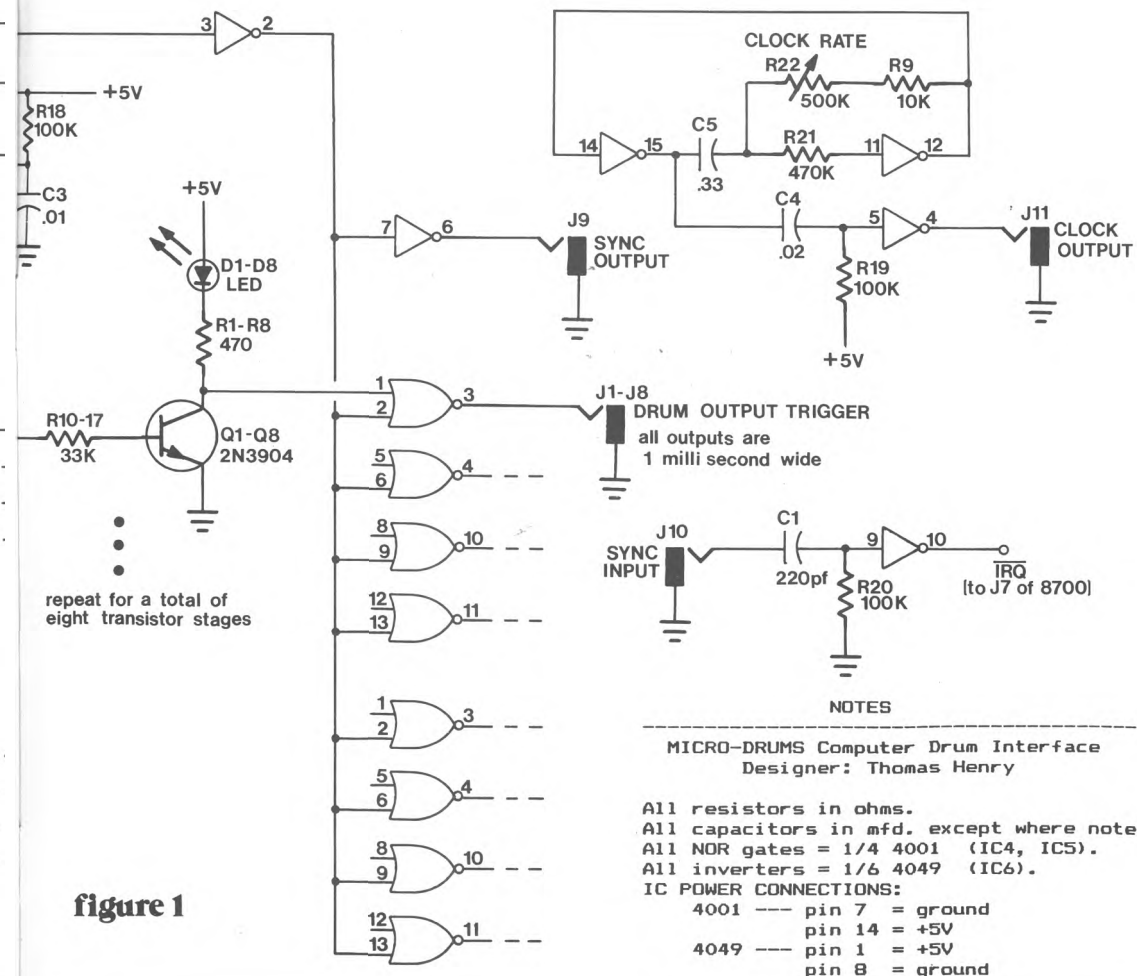

figure 1
Refer to the schematic in figure 1. Essentially, we set up one address in the 8700's operating system to act as a drum output port. This port is
This takes care of the drum output support hardware. As you can tell, there really isn't very much to it, and in fact it is quite similar to the other output port at \$0840 on the 8700. The rest of the circuitry in figure 1 has nothing to do with the drum output, but instead provides the necessary housekeeping circuitry to round out the complete system.
Entering the program. Figure 1 shows the complete listing for Micro-Drums software. Since I used the PAIA 8700 computer, the code is written in 6502 assembly language. Those of you who plan to use Micro-Drums with some computer other than the PAIA unit will need to change the appropriate equates (at the start of the program) and may also need to alter the starting address. The source code in Figure 1 is heavily annotated, so you should be able to figure out how it works quite easily.
(3) Get ready to start loading data at \$0120, by punching in this address and hitting the DISP key.
(4) Using Figure 1 as a guide, start entering the data. The first few bytes are \$20, \$34, \$0F, A5, etc.
(5) Keep entering data until you hit the last byte in the listing. This is \$02 (at location \$028B). Use the PCH and PCL keys to confirm that you're at the right place.
(6) You're now ready to save the program to tape. Follow the normal 8700 Cassette Interface protocol for saving a program. The start address is \$1020, the end address is \$028B, and you can use \$01 for an identifier.